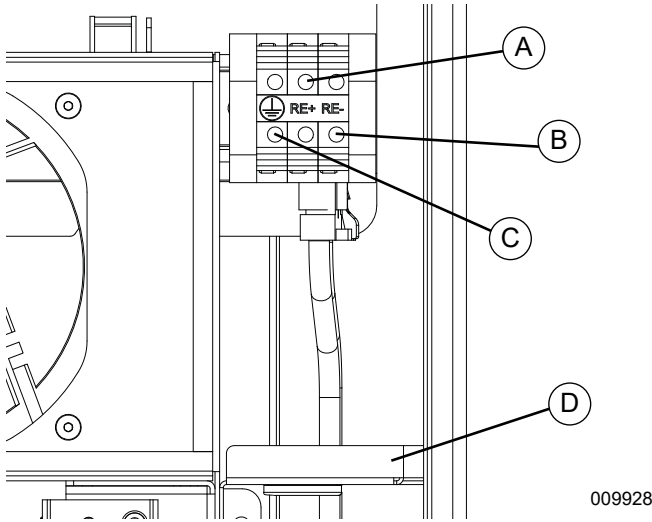

Figure 4-7. REbus Wiring
1. See **Figure 4-7**. Install REbus conductors to their terminal blocks: RE+ to red (A), RE- to blue (B).
2. Install equipment grounding conductor to green terminal block (C).
3. If required, route field wiring conductors through the grommet wiring chase baffle (D).